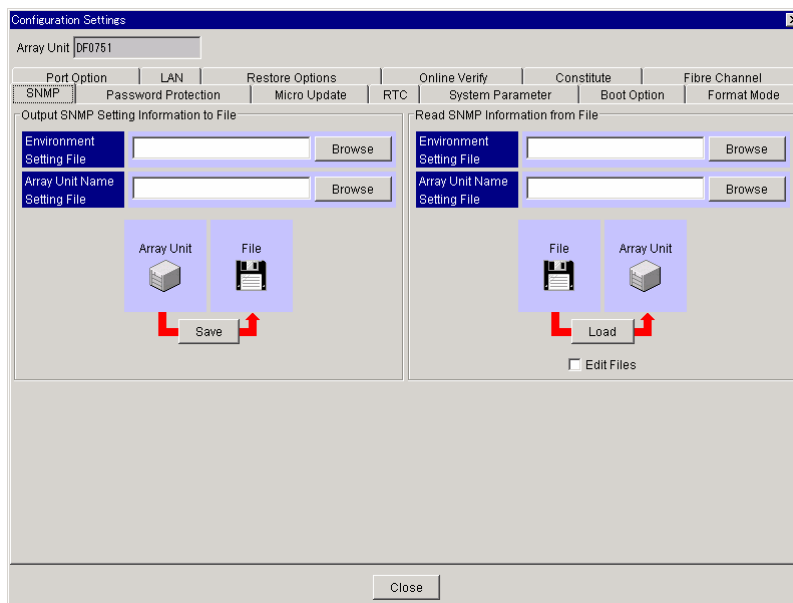

Figure 5.6 Configuration Settings Dialog Box (SNMP Tab)
3. From the **Settings** menu, select **Configuration Settings**, or select the **Configuration Settings** button () from the tool bar. The **Configuration Settings** dialog box is displayed (Figure 5.6).
4. Click the **SNMP** tab (Figure 5.6).
4. Click the **SNMP** tab (refer to Figure 5.6).